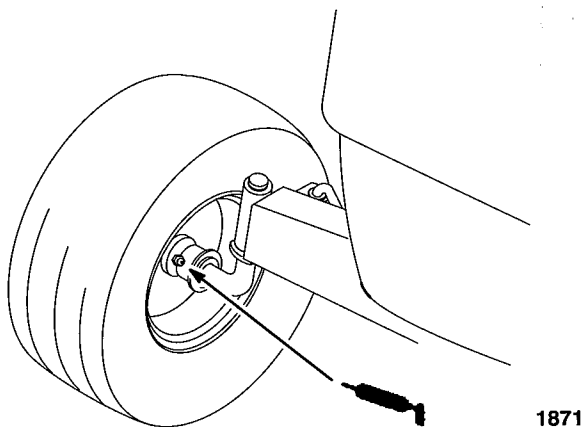

Figure 22
1. Lubricate the front wheels until grease begins to ooze out the bearings (Fig. 22).